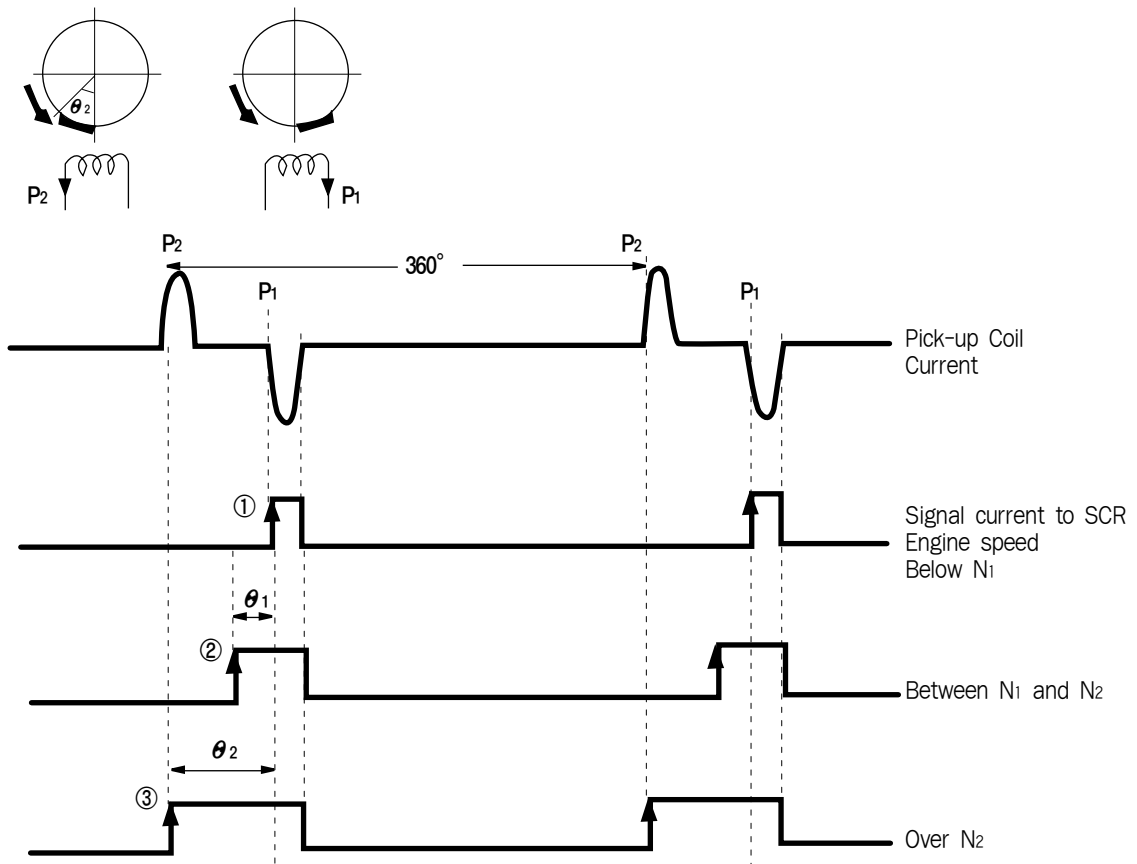

Fig. 2
When the engine is running slowly ( $N_1$  r/min or less Fig. 3), control by the ignition timing control circuit is executed so that the ignition signal is generated at the time ①(Fig. 2) when the current ( $P_1$ ) is generated and is sent to the (SCR). When the engine speed increases ( $N_1$  to  $N_2$  r/min), control is executed so that the ignition signal ② is generated between ( $P_1$ ) and ( $P_2$ ) according to the engine speed. At this time, the advance angle is ( $\theta_1$ ).